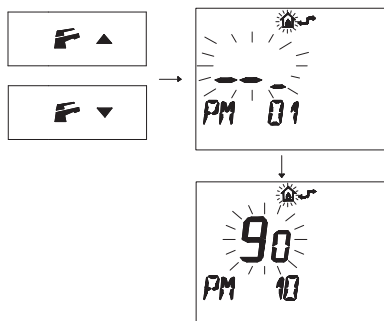

Fig. 7.38
- Press buttons **F** and **DOWN** or **F** and **UP** to display the "PM10" program for selecting the ignition frequency (Fig. 7.38).
In Fig. 7.38 a SET programmed at **90** is displayed corresponding to a re-ignition time of about 3 minutes.